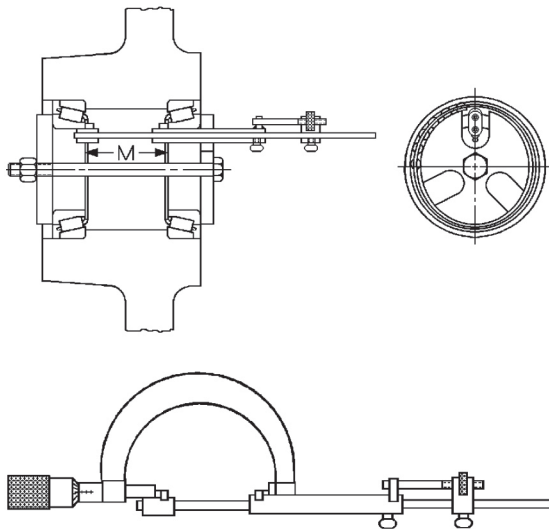

Figure 11
- 4.8.8.2 Apply a light coat of grease to the cups and insert the cones into the flywheel, holding them into position with a three pronged fixture, similar to that shown on Figure 11.
- 4.8.8.4 Measure the space between the inner bearing races ("M" on Figure 11) at three positions approximately 120 degrees apart. If the difference between the three readings is less than 0.010", calculate the average of the three readings. If the difference between the three readings is greater than 0.010", the bearings are not seated. Loosen the fixture and re-seat the cones, tightening the fixture per 4.8.8.3.